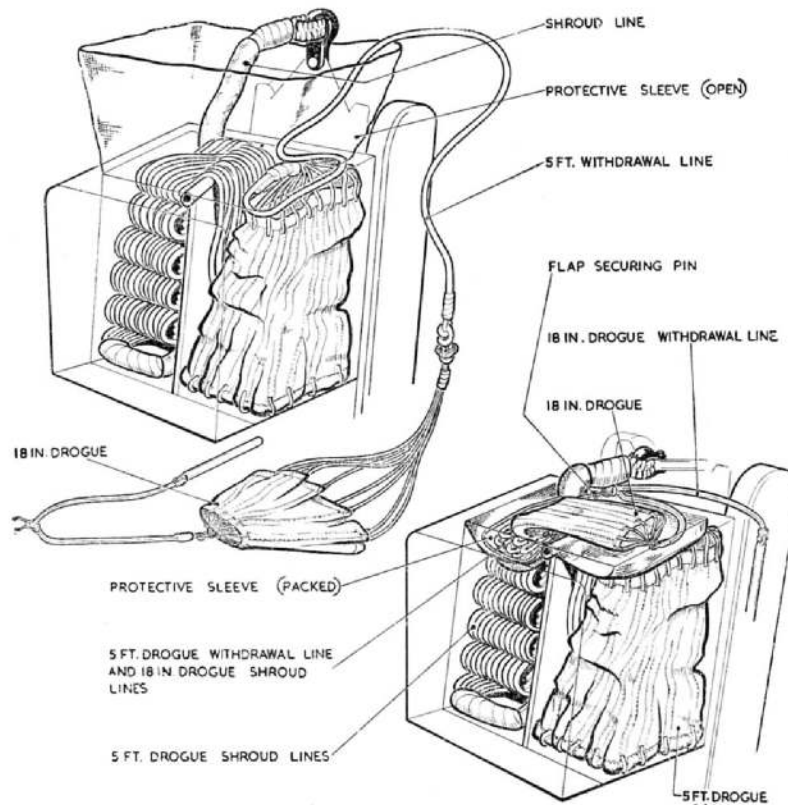

Fig. 17. Stowing the drogues
- (2) Insert the sleeve-protected shroud lines from the shackle into the rear-most outer corner of the right-hand compartment of the drogue container and fold the shroud lines as shown in the upper diagram of fig. 17.
- (3) Extend the remaining shroud lines and check that they are not entangled; fold the 5 ft. drogue into three double folds and pack into the left-hand compartment.
- (4) Cover the shroud lines and the 5 ft. drogue with the protective sleeve. The 5 ft. drogue withdrawal line must emerge from the protective sleeve in the right-hand compartment.
- (5) Fold the 5 ft. drogue withdrawal line and the 18 in. drogue shroud lines on top of the protective sleeve in the right-hand compartment and stow the 18 in. drogue as shown in the lower diagram of fig. 17.
- (6) Close the flaps in the following order:— port (1), starboard (2) rear (3) and front (4). The wire loop must pass through each eyelet in turn and the 18 in. drogue withdrawal line must emerge from the rearmost corner nearest the drogue gun.
- (7) Insert the flap securing pin attached to the 18 in. drogue withdrawal line through the wire loop and tie to the fabric loop on the front flap with a single loop of No. 8 linen thread (Stores Ref. 15A/108).